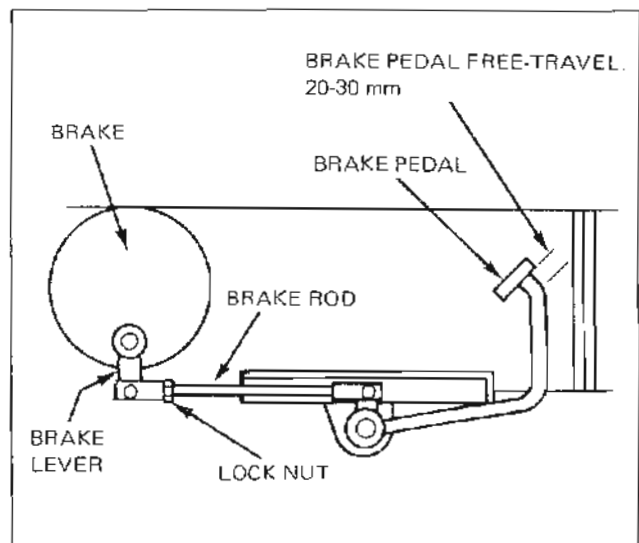

Figure 69 – Brake Pedal Adjustment
2. Loosen the locknut, Figure 69, and rotate the brake rod as necessary until there is 20-30 mm (3/4-1-3/16 in.) of pedal free play. Lengthening the rod increases free play while shortening the rod decreases free play.